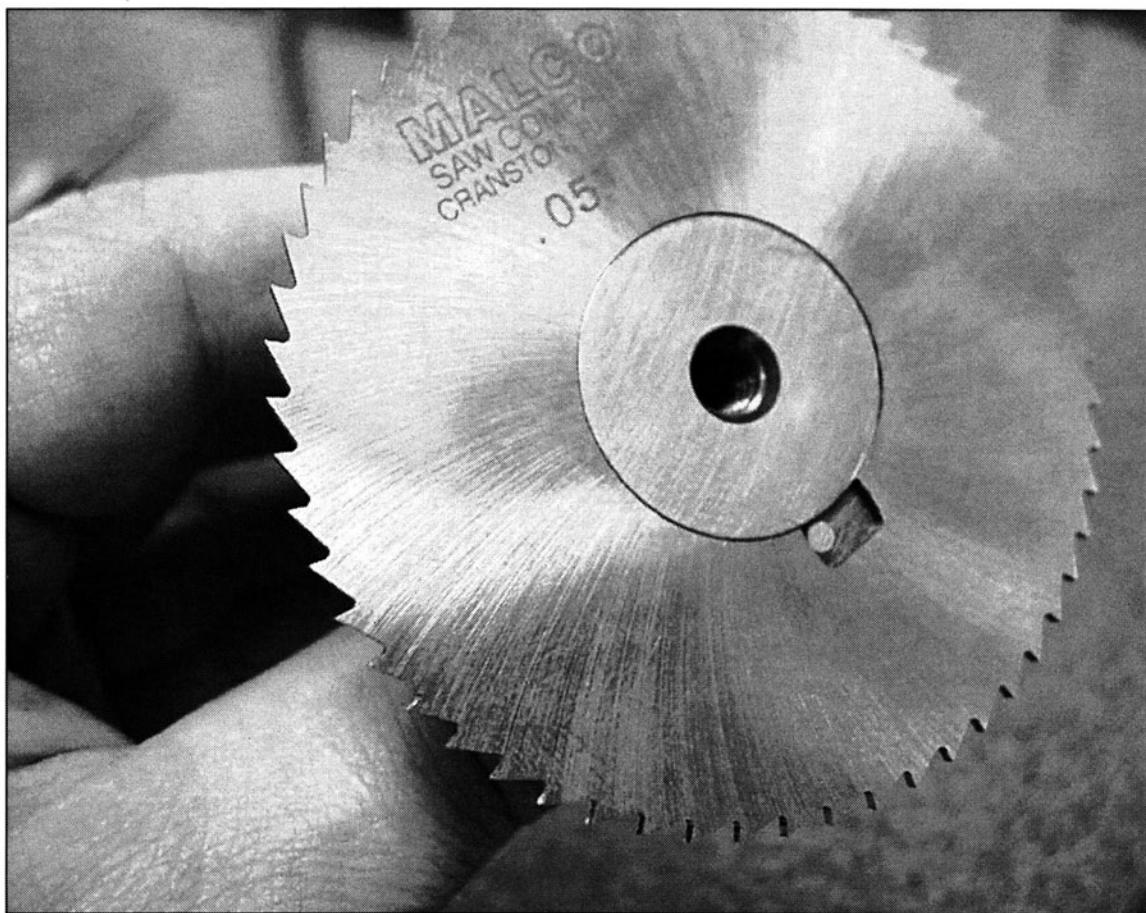

FIGURE 7-9 Relatively coarse toothed slitting saws work well for most slitting saw jobs and won't load up with chips as easily as fine toothed saws.
10. *Use relatively coarse toothed slitting saws. (See Fig. 7-9)*